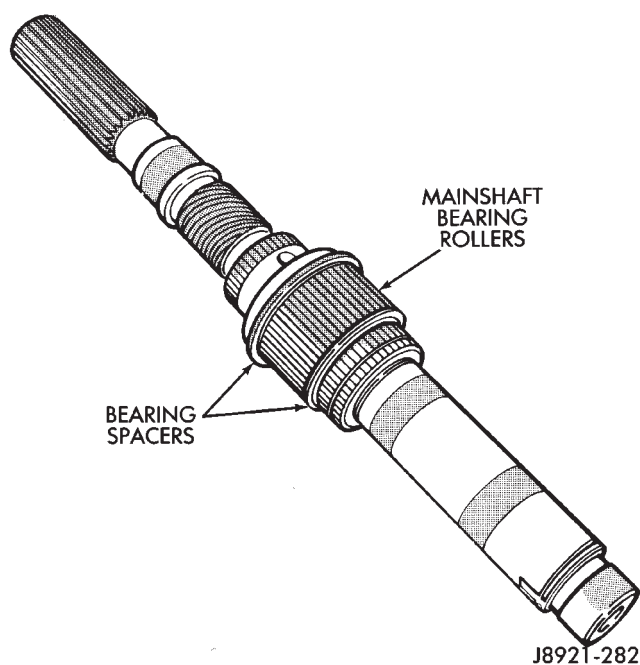

Fig. 56 Installing Mainshaft Bearing Rollers and Spacers
(33) Install remaining bearing spacer on mainshaft (Fig. 56). Do not displace any bearings while installing spacer.
(30) Install and tighten differential case bolts.
(31) Install first mainshaft bearing spacer on mainshaft (Fig. 56).
(32) Install bearing rollers on mainshaft (Fig. 56). **Coat bearing rollers with generous quantity of petroleum jelly to hold them in place.**